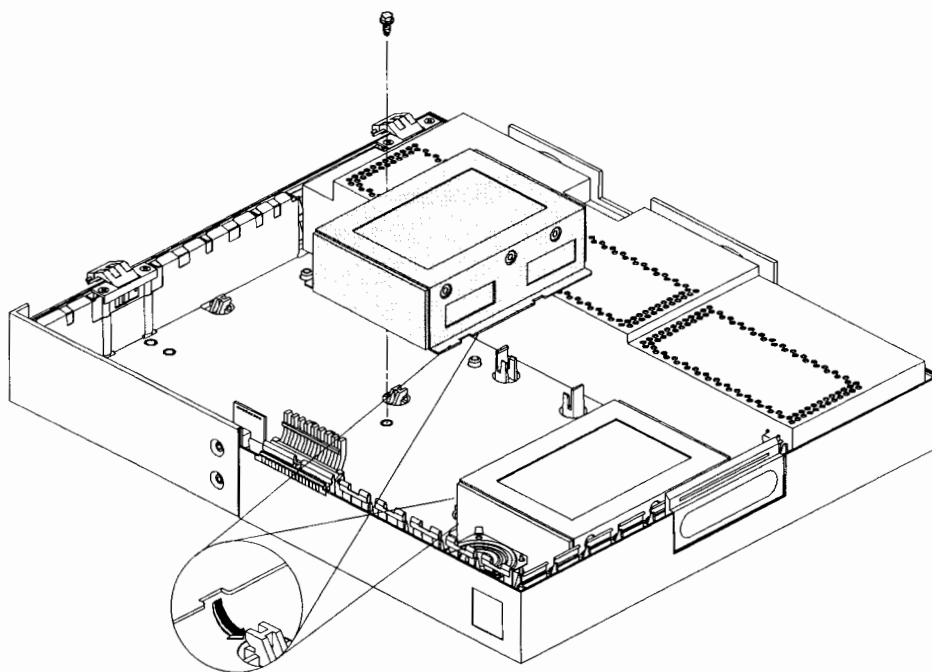

Figure B-38. Installing the Disk Drive
4. Mount the disk drive assembly to the chassis. Use the screw that came in the kit and a #2 Phillips screwdriver to secure the disk drive mounting bracket to the chassis, as shown in Figure B-38.